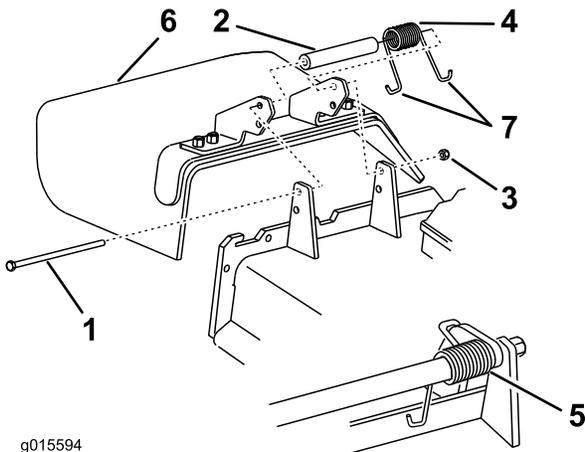

Figure 98
1. Remove the locknut, bolt, spring, and spacer holding the deflector to the pivot brackets (Figure 98). Remove the damaged or worn grass deflector.
**Note:** Make sure one J end of the spring is installed behind the deck edge before installing the bolt as shown in Figure 98.
3. Install the bolt and the nut. Place one J hook end of the spring around the grass deflector (Figure 98).